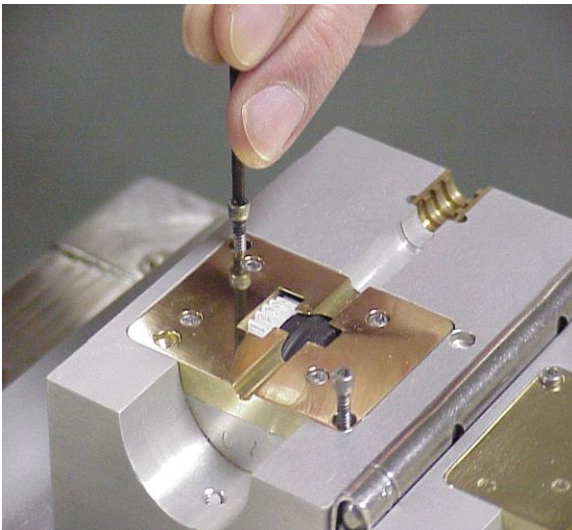

Figure 39
13.5.2.1 Use small 3/32" Allen wrench to remove two (2) long machine screws that secure Upper Brass Plate & Drive Assembly to upper Blowing Head section. **See Fig. 39.**